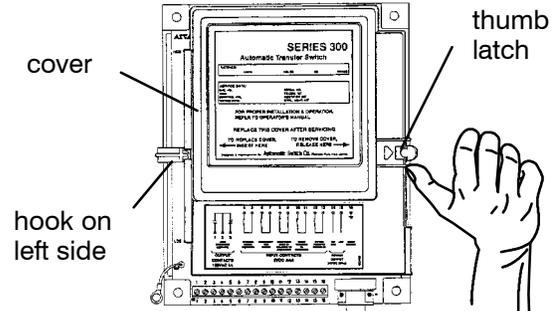

Figure 5. Group 1 Controller cover latch.
1. Remove the cover from the controller by releasing the latch on right side with your thumb. See Figure 5.